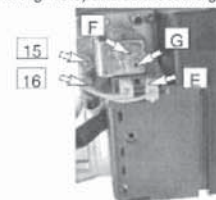

Figure 15.5
- Open the gas valve outlet pressure test point 15 (figure 15.5) and connect the gauge.
- Close the gas valve outlet pressure test point 15 (figure 15.5).
- Open the gas valve inlet pressure test point (16 in Fig. 15.5) at the valve input, connect a suitable pressure gauge and check the gas pressure of the supply network.
- Open the gas valve outlet pressure test point (15 in Fig. 15.5) and connect the gauge.
- Rotate the maximum gas pressure adjustment (F in Fig. 15.5) until you obtain the required pressure (by rotating clockwise the pressure increases).
- Turn the boiler off and disconnect one of the two connectors (E in Fig. 15.5).
- Start the boiler and rotate the minimum gas pressure adjustment (G in Fig. 15.5) until you obtain the required pressure (by rotating clockwise the pressure increases).